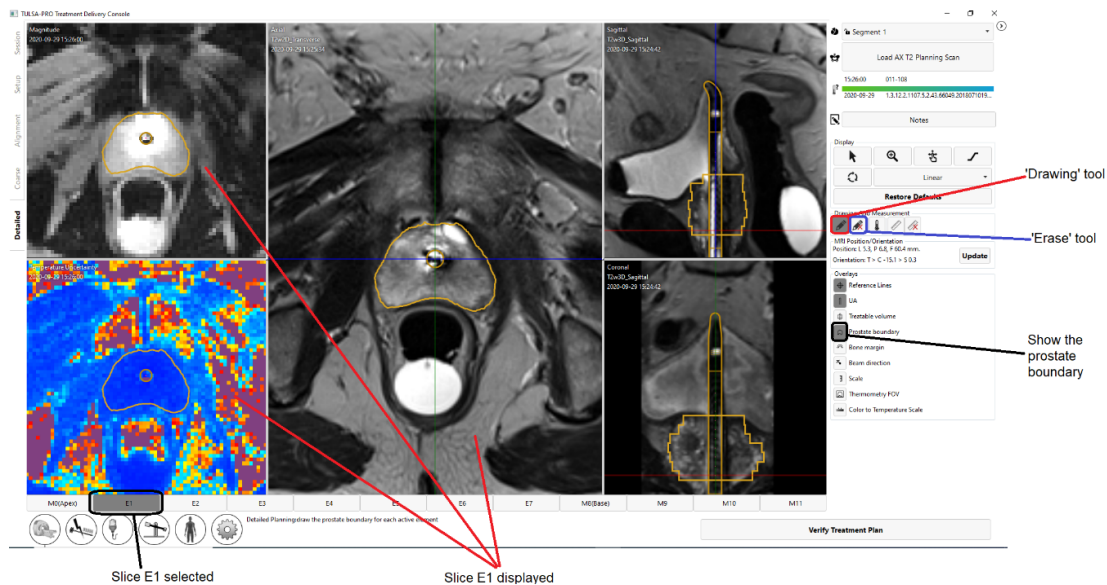

Figure 37: Detailed Planning after drawing boundaries
2. To draw the prostate boundary, select the drawing tool and outline the tissue to be ablated on each slice based on the corresponding AX T2 and THERM magnitude images (*Figure 37*). You can select individual slices by clicking on the numbered tab at the bottom of the screen or by pressing the left and right arrow keys on the keyboard. Use the sagittal and coronal views of the SAG T2 images to verify the intended ablation zone in three dimensions.